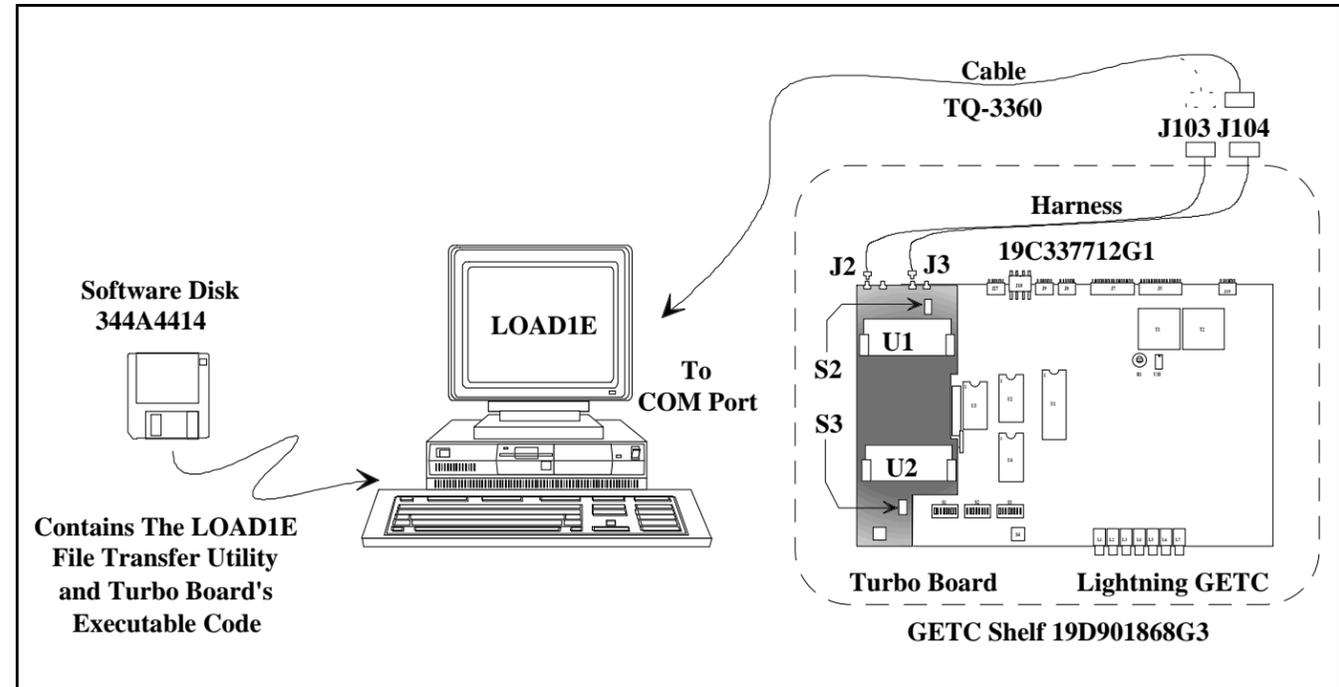

Figure 7 - Turbo Board Programming
1. Connect the TQ-3360 programming cable from the PC's serial port connector to the GETC Shelf connector J104 (see Figure 7). (A DB-25 to DB-9 adapter may be needed.)